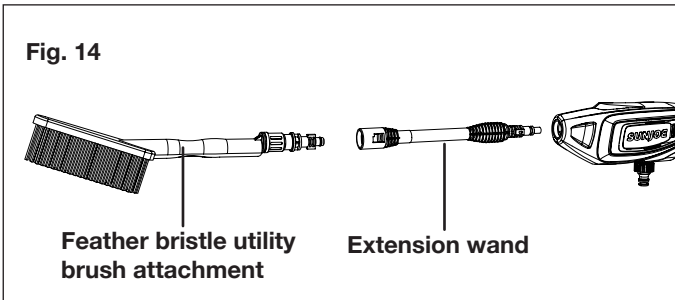

Fig. 14
3. If needed, use the extension wand to connect the power cleaner and the utility brush attachment (Fig. 14).